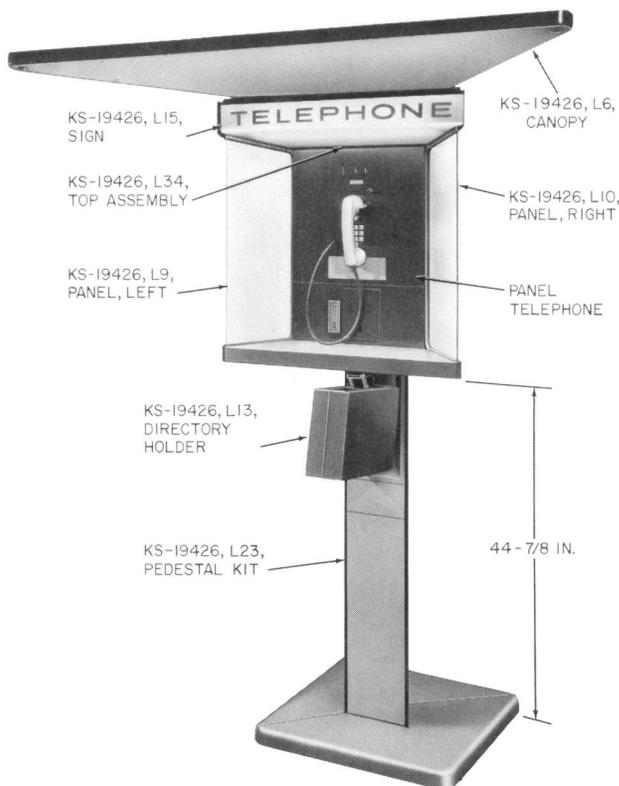

Fig. 1 — KS-19426 Mounting for Walk-up Outdoor Service
2.01 The KS-19426 mounting consists of a 90-degree wedge-shaped housing for post or wall mounting of coin telephones. See Fig. 1 through 4.
2.02 Post mountings (Fig. 1 and 2) may be installed singly or in multiple combinations as shown in Fig. 5.
2.04 A wedge-shaped canopy (Fig. 1) is available for installation above a single housing to protect the user from the weather. Canopies may also be used in multiple arrangements.
- (a) List 13 directory holder (Fig. 1 and 2) for outdoor use.